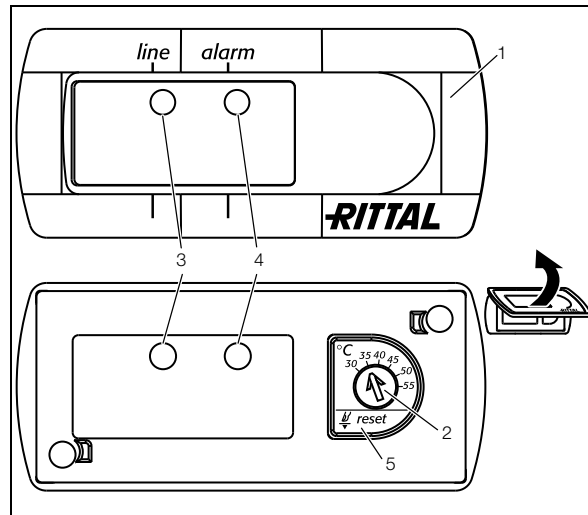

Fig. 28: Basic controller
The Basic controller monitors and controls the cooling unit. It indicates the operating and error status via the green and red LEDs (fig. 28, items 3 and 4):
- Set the required temperature on the temperature setting device (fig. 28).
- Press the reset button (fig. 28, item 5) for at least 3 seconds.